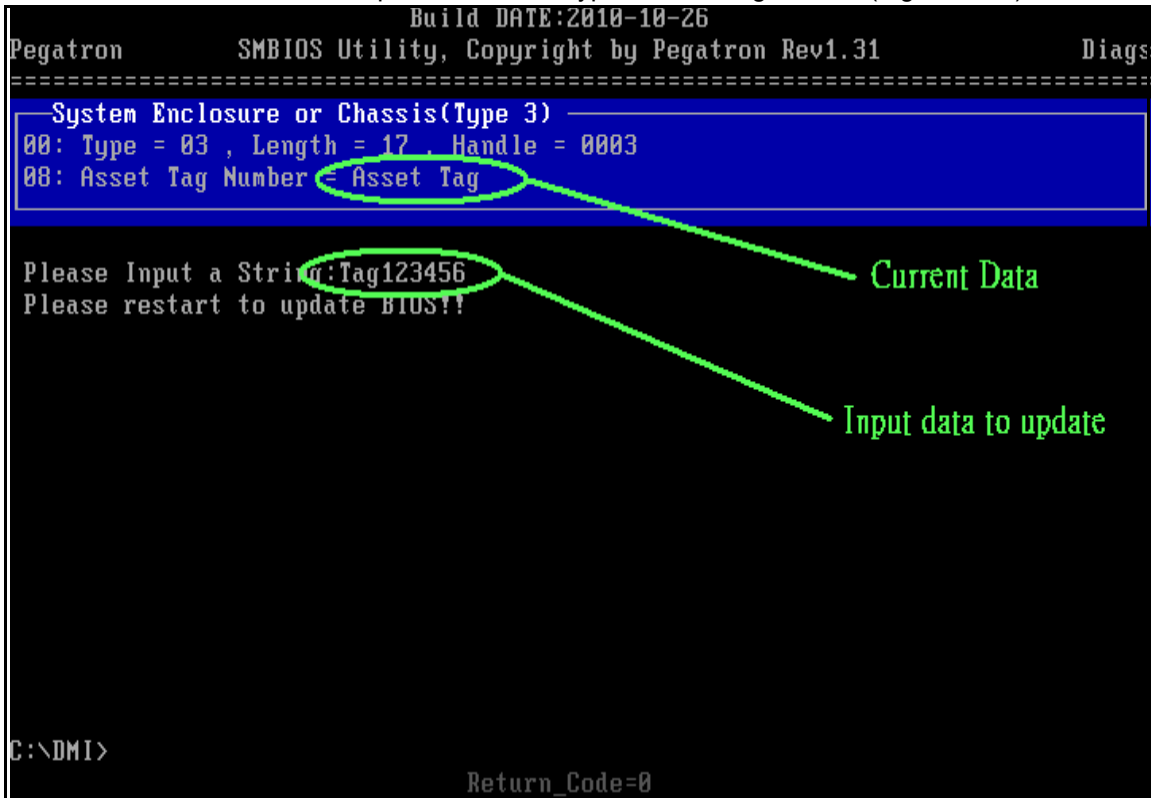

Figure 2-27. Update Asset Tag
5. Execute < **RU.bat** > to read SMBIOS Type 1 UUID(Figure 2-27).